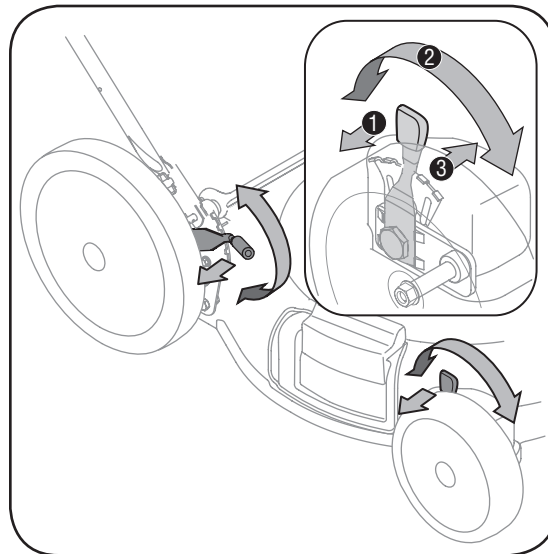

Figure 3-8: Use levers to adjust cutting height.
2. Move it to any one of the positions for desired cutting height. See Figure 3-8. Make sure that each wheel is positioned at the same height.